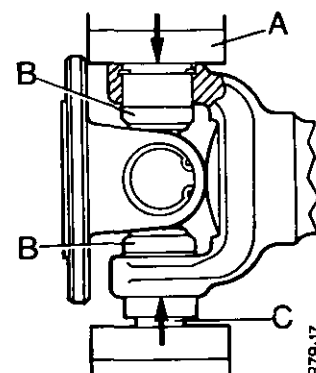

FIGURE 31. INSTALLING THE BEARING CUPS
3. Use a 150 mm vice to press the cup into the housing as shown in Figure 31.